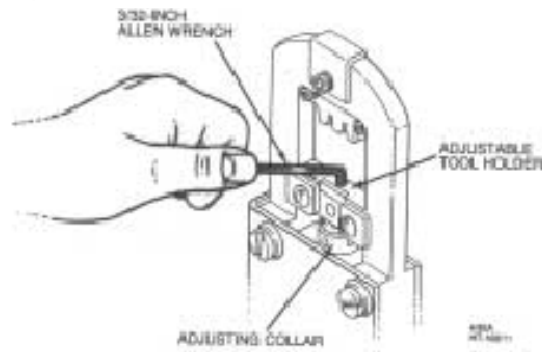

Figure 11
2. Insert a 3/32-inch Allen wrench into the hole in the adjustable tool holder and into the socket head setscrew (see Figure 11). Turn the setscrew 1/4 turn counterclockwise to unlock the adjusting collar.